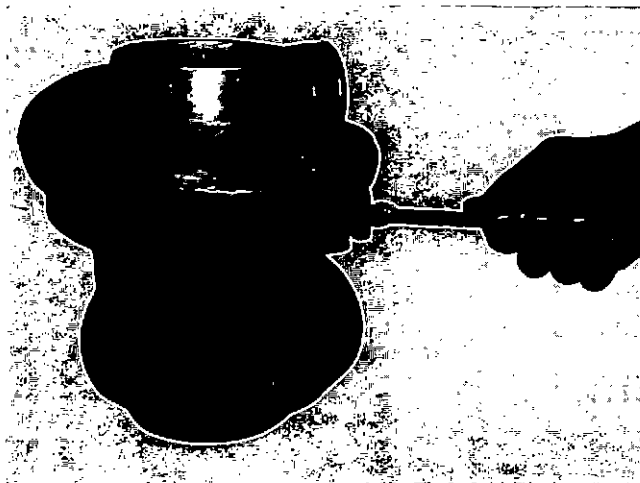

Fig. 5-1, (TA4). Removing the V-clamp
3. Remove the locknuts, washers and the bolts which hold the V-band clamps to the turbocharger, Fig. 5-1. Lift off the V-band clamps and discard the locknuts, washers and bolts.